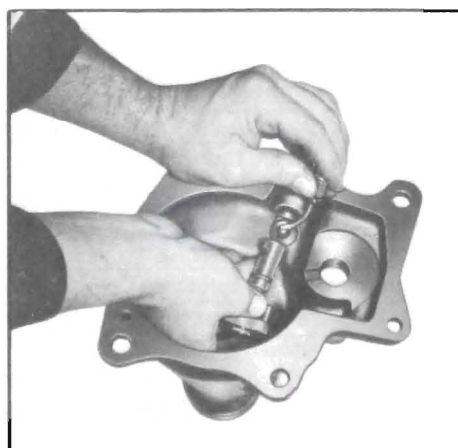

Figure 4-65—Installing Reverse Shifter Shaft
5. Place detent ball on spring and, holding ball down with a suitable tool (see Figure 4-65), push the shifter shaft into place and turn; the ball drops into place in detent on shaft detent plate.